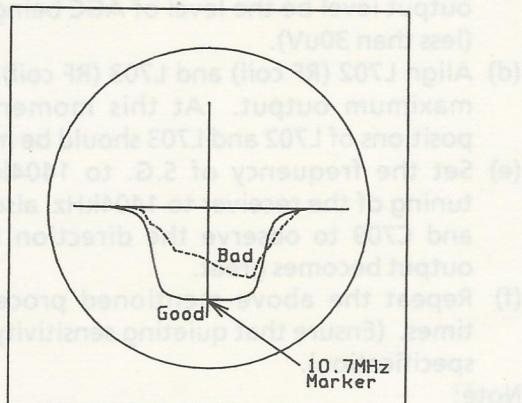

Fig. 7
- (c) Align F601 in order that the waveform of the oscilloscope may be the same as that shown in Fig.7. The amplitude of the waveform should be maximum and symmetrical with respect to the vertical axis, and the end portion should be round shaped.